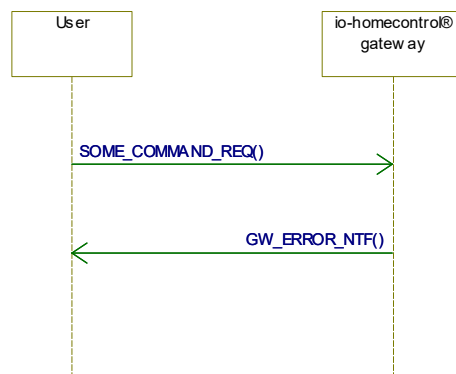

Figure 5 - Sequence diagram showing standard communication with REQ and Error frames.
- If an error occurs, CFM frame, NTF frame or both can be replaced by an Error frame. See sequence diagram in Figure 5.